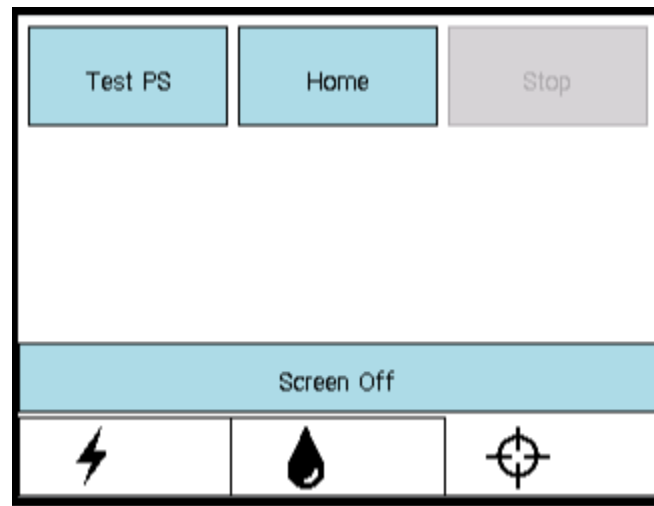
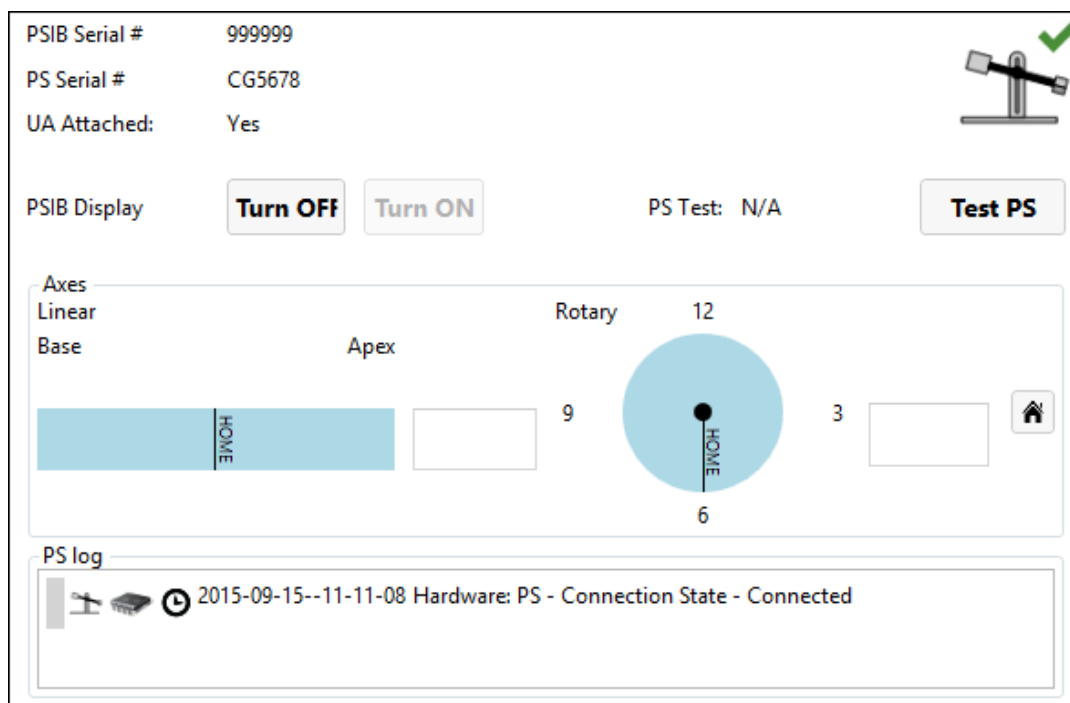

Figure 7: PSIB display - PS tab
Figure 8: PS information box in Setup workspace
- b. On the PSIB display, select the PS tab  and click **Test PS** (Figure 7). The system will translate the PS forward and backward to test the continuity and functionality of the translation axis as well as home the PS in the translation axis. The system will also rotate the rotational axis clockwise and counter-clockwise to test the continuity and functionality of the rotational axis. (This can also be done from the TDC *Setup* workspace in the PS information box in the bottom-right quadrant Figure 8.) You can move to the next step while the PS test is in progress.